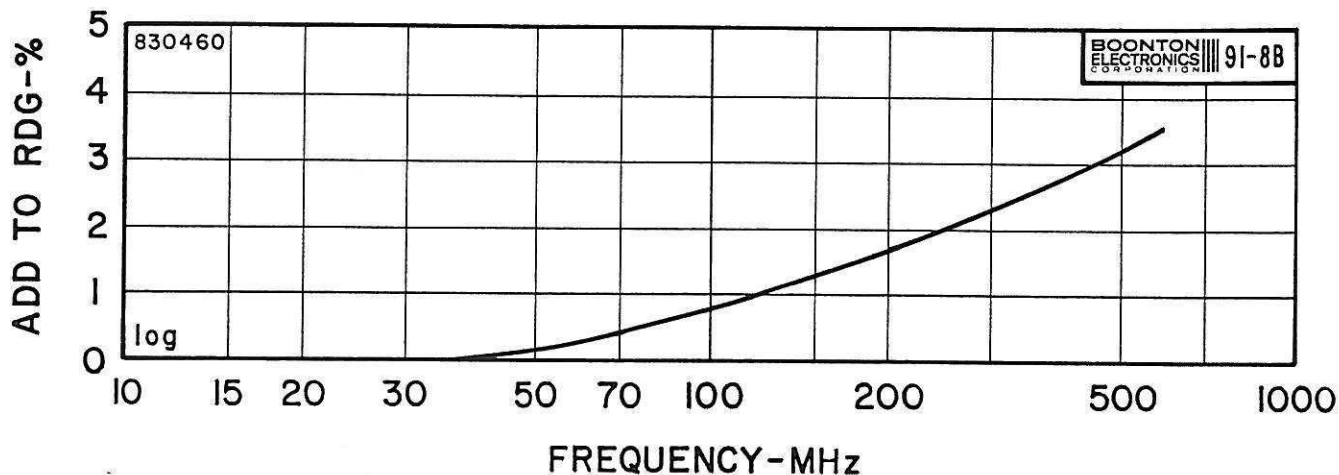

Figure 8A. Model 91-8B 50Ω BNC Adapter Correction Curve.
A Model 91-8B 50-ohm BNC Adapter is supplied as a standard accessory with the instrument for 50-ohm voltage measurements up to 600 MHz. A correction curve (Figure 8A) is included for frequencies above 50 MHz. For higher-frequency measurements and for through-line voltage measurements the optional accessory, Model 91-14A Tee Adapter, is recommended. It is designed to compensate for the rf probe capacitance and to present a good vswr (better than 1.15) up to 1.2 GHz. It may be used in conjunction with the Model 91-15A 50-ohm load for terminated voltage measurements. In a coaxial line its insertion loss is low; however, a chart (Figure 8B) is supplied showing loss vs. frequency.
3.6 CORRECTION CURVE FOR MODEL 91-8B. Use the correction curve of Figure 8A to make corrections when using the Model 91-8B, 50Ω BNC Adapter with the Model 92C and Model 92C Option Instruments.